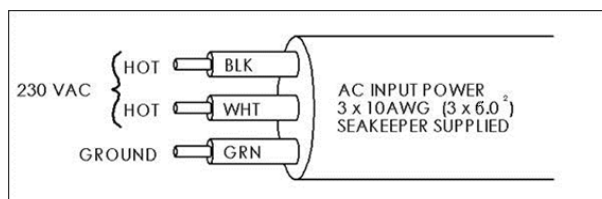

FIGURE 3 – CABLE 2 WIRE CONNECTIONS AT AC POWER DISTRIBUTION PANEL
- Connect 230 VAC wires in CABLE 2 to a 20 Amp, double-pole Circuit Breaker at an AC power distribution panel according to Figure 3 above.